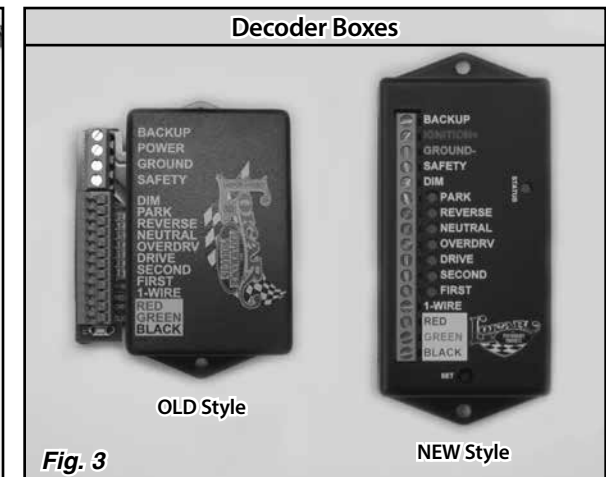

Fig. 3
**NOTE:** There are two styles of decoder boxes: OLD and NEW. See Fig. 3 to determine which type you have. If you have the OLD style decoder box, these are **NOT** the correct instructions. You need instructions # INS0038, which can be found on the Lokar website or can be emailed to you by contacting Lokar Technical Support.